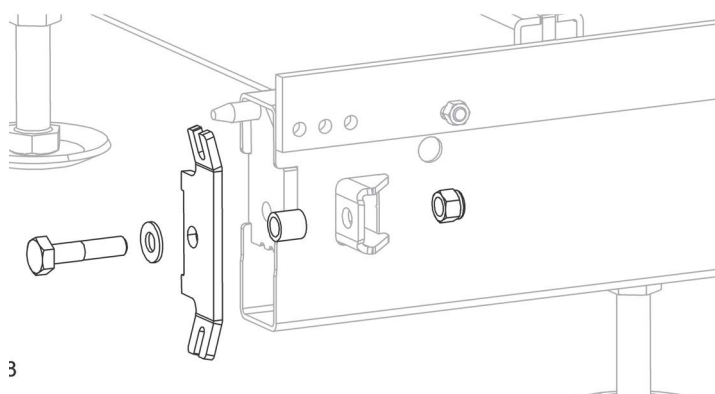

FIG. 2-3
2. Remove the rear feed rope bracket; retain the parts for re-installation. See Fig. 2-3.